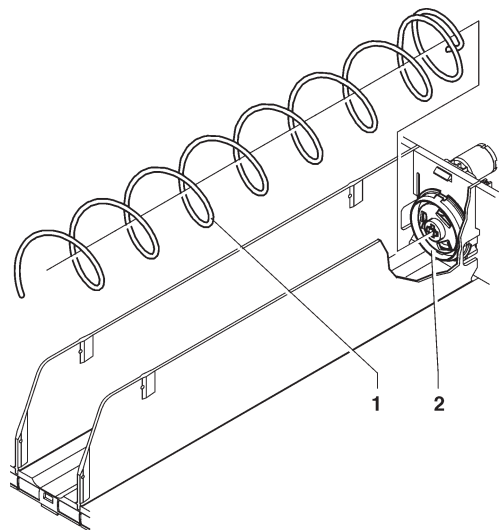

Fig. 26
- Move the guides (see fig. 26) placed on the side supports, except for the first ones at the bottom which stay in the same position.